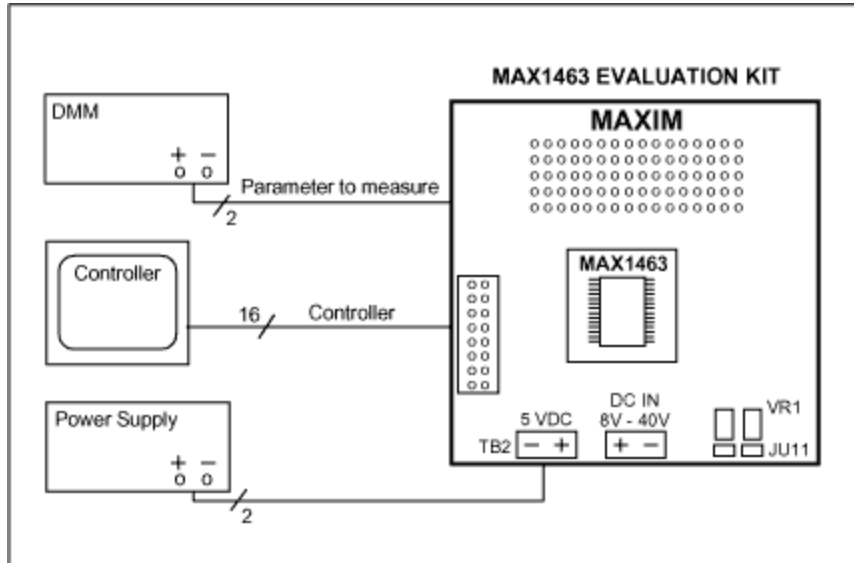

Figure 2. Hardware connection.
- Set up the system per **Figure 2**.